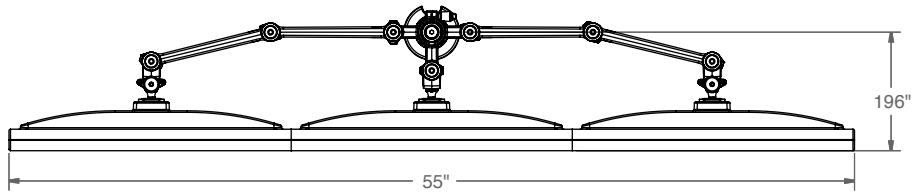

Figure B.7 Triple Monitor Arm with 8" Standard Links
- The maximum monitor width for a Triple Monitor Arm, assuming all monitors are the same width, is 26" when used with 12" long links, as shown in Figure B.7 and B.8. The maximum monitor width for use with standard 8" links is 18".